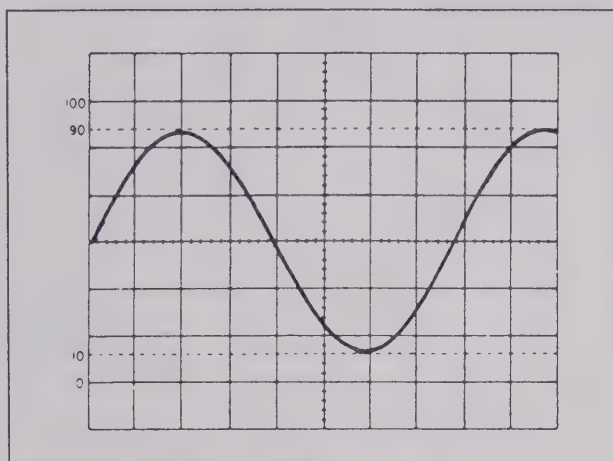

Fig. 4. Adjusting Trigger Point
5. Adjust VR403 (TRIG BAL) until the signal waveform has a steady and inverse waveform on the CRT screen when the operation is switched between + SLOPE and - SLOPE. (See example in Figs. 4 & 5)